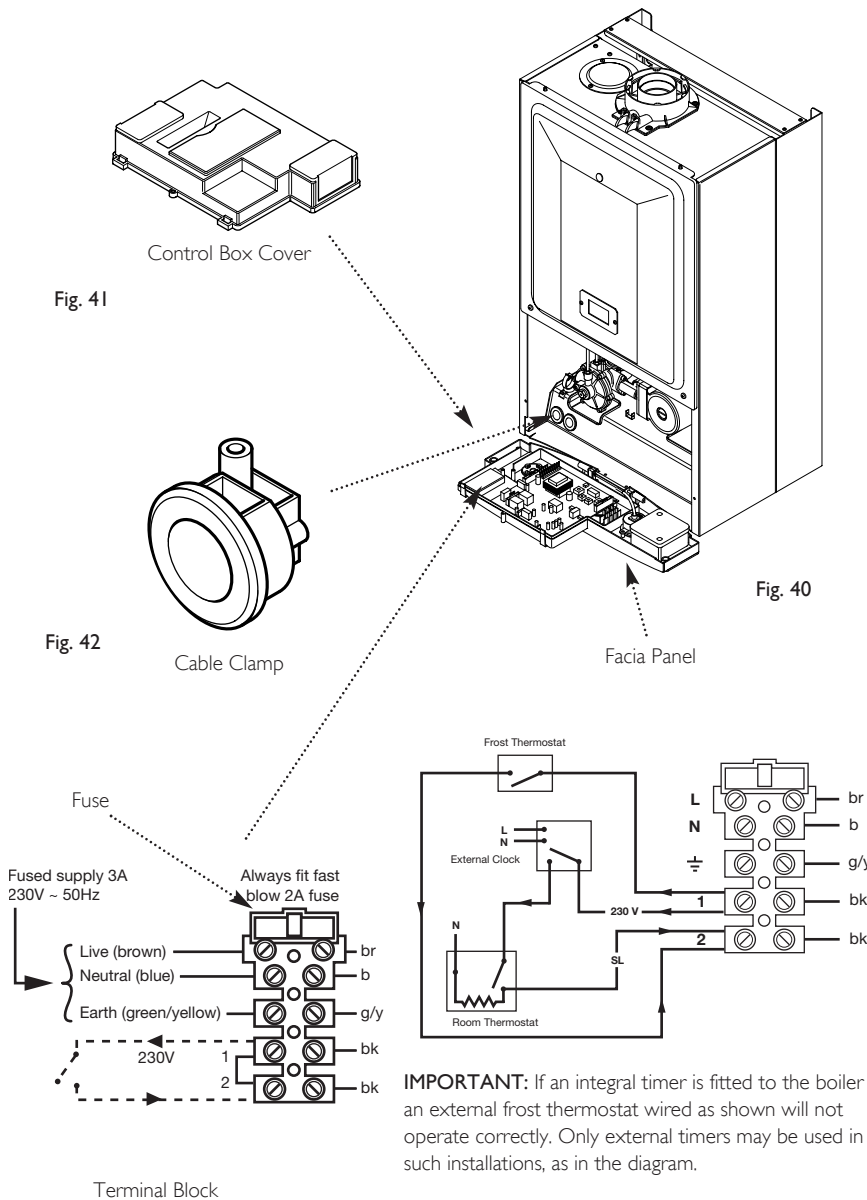

Fig. 43
1. Lift the boiler using the Lifting Points as shown by the shaded areas (Fig. 43). The boiler should be lifted by TWO PEOPLE. Engage the slots at the top rear of the boiler on the wall plate (see **Safe Manual Handling** page 5).
7. To connect external control(s) remove the link between terminals 1 & 2. The 230V supply at terminal 1 must be connected to the external control. The switched output from the external control must be connected to terminal 2 (Fig. 43).
NOTE: If the room thermostat being used incorporates an anticipator it **MUST** be wired as shown in Fig. 43